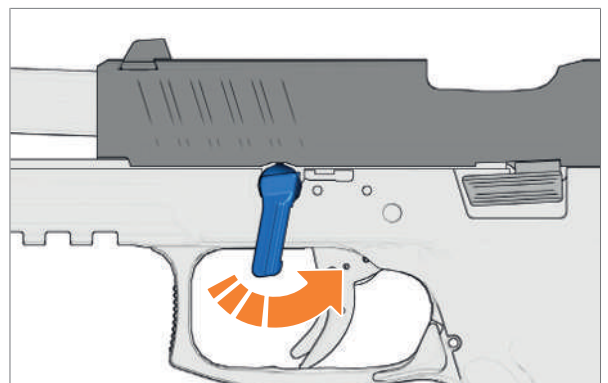

Fig. 71: Turn disassembly lever anticlockwise
7. Turn disassembly lever anticlockwise as far as it will go (*Fig. 71*).